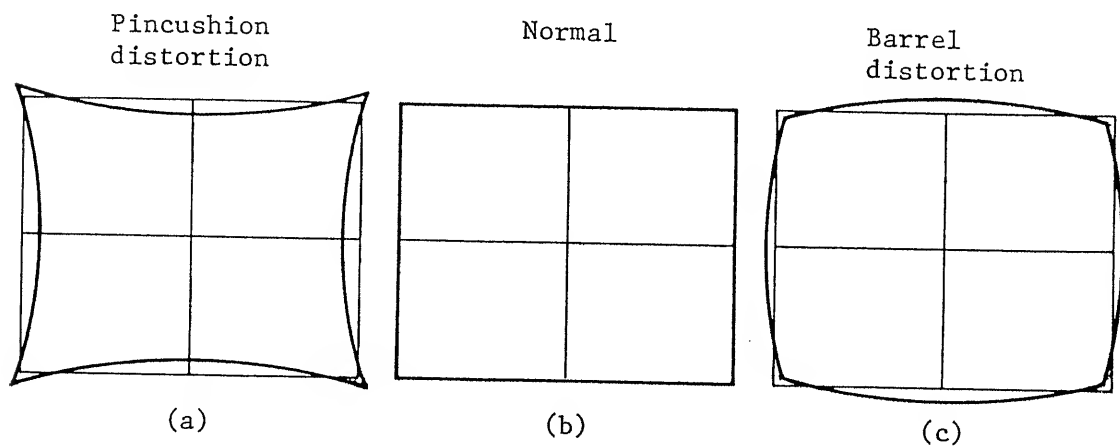

Figure 7-3
- (1) Apply a sinusoidal signal of approximately 50 kHz to vertical input terminal and display the signal with an amplitude of 8 DIV and with approximately 50 peaks.
- (2) So adjust the GEOMETRY control (Figure 7-9, RV1105) that the displayed pattern becomes as (b) in Figure 7-3.